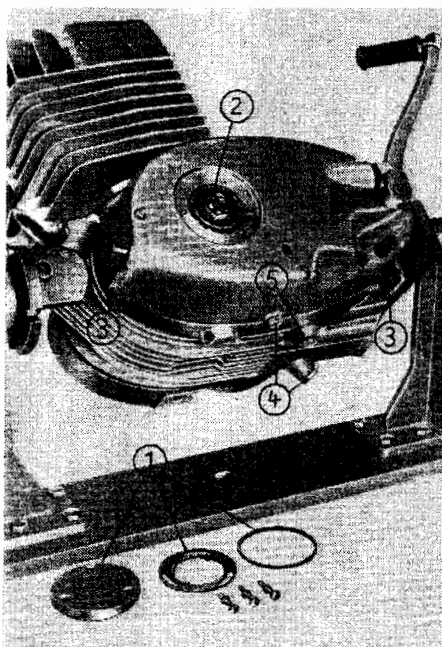

Fig. 16.
During the subsequent operations, the gear oil is allowed to drain (oil drain plugs see Fig. 16, item 4).
Note: The gear-shift mechanism detent screw (Fig. 16, item 5) does not serve for oil draining!
Before the engine is placed into the fixture 05-MV 197-0 (see Fig. 16), remove the clamping screw (1) (SW 17) and beat out the fitting sleeve underneath by means of the drift 11 MW 3-4 (2).